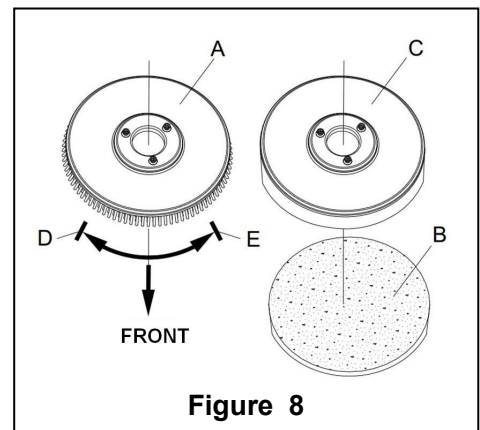

Figure 8
According to the type of floor to be cleaned, the machine may be installed with brush (Figure 8, A), or a pad-holder (Figure 8, B and C).
- (Only applicable to **AS430B** and **AS510B**): make sure the switch (41) is at the disconnecting (**O**) condition.
- Press down the handlebar (2) to lift the tank body (26).
- Put the brush (A) or the pad-holder (B – C) under the case.
- Use the handlebar (2) to lower the tank body (26) to come into contact with the brush or pad-holder.
- To install the brush/pad-holder automatically, turn the power switch (41) to the “I” position and press down the safety switch (1). Gently push the machine forward so as to allow the belt wheel at the bottom of the tank body to align with the brush or pad-holder which can then be installed. Then release the safety switch. If necessary, repeat this procedure until the brush/pad-holder is installed.
- If Step 5 above proves to be difficult, use the manual method by following the arrow head (D) to install the brush/pad-holder (as shown in **Figure 8**).
- To automatically unload the brush/pad-holder, turn the power switch (41) to the “O” position. Use the hand to hold the handlebar, and press the machine downwards until the guide wheel touches the floor and the brush/pad-holder hangs in the air. Turn the power switch (41) to the “I” position, and press down the safety switch to let the brush or pad-holder turn until the brush/pad-holder drops to the floor.
8. If Step No. 7 above proves to be difficult, use the manual method by turning the brush/pad-holder in the direction opposite to the normal turning direction, and it can be taken off. (as shown in **Figure 8**)